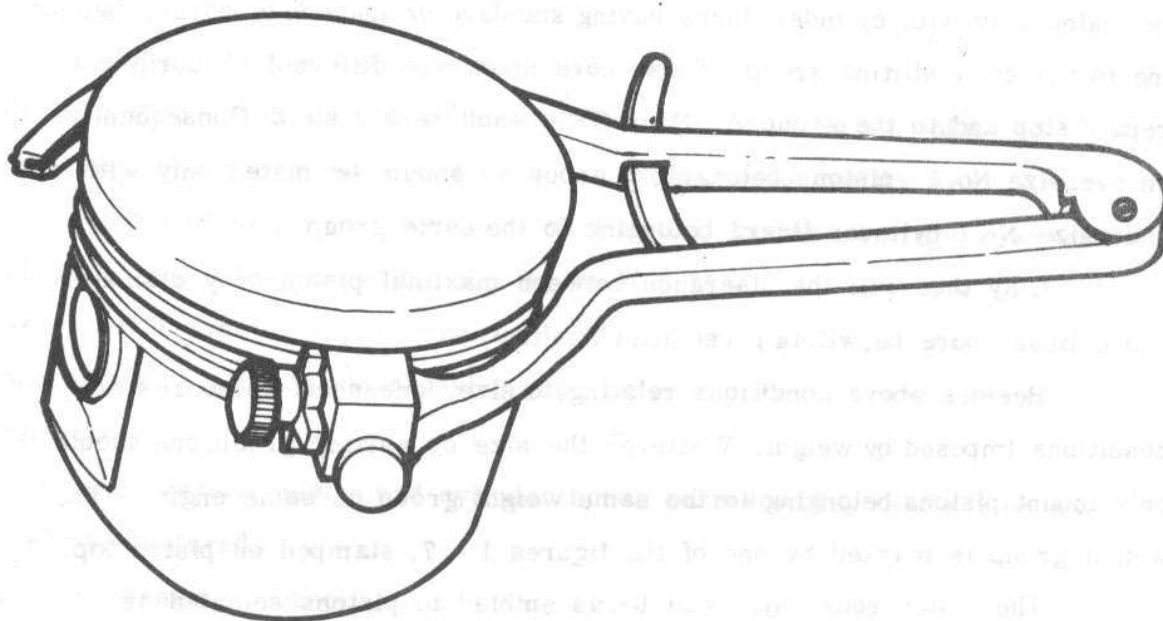

Fig. 4.65. REMOVING CARBON DEPOSIT FROM PISTON RING GROOVES BY MEANS OF S-9 DEVICE;
- Clean piston grooves from carbon deposit by means of special  $\S 9$  device as shown in Fig. 4.65.